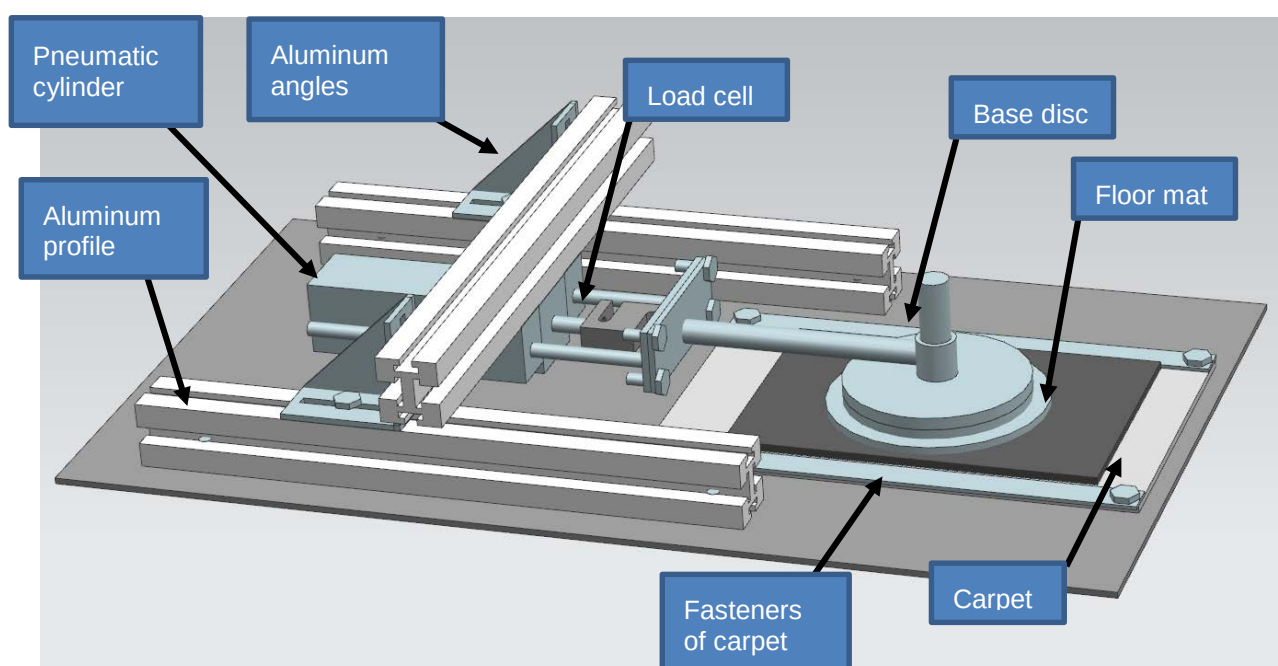
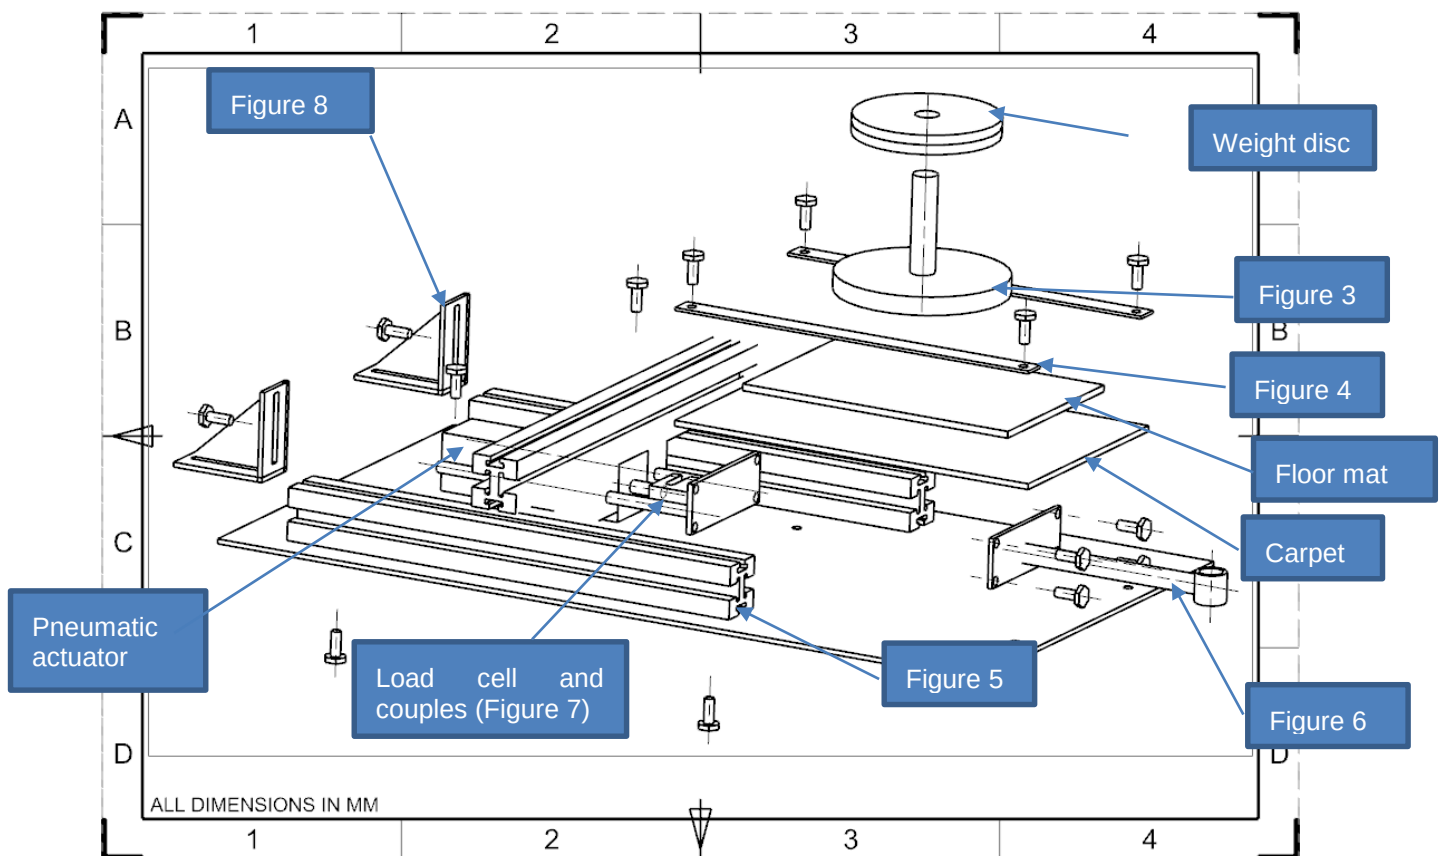

Figure 1: Floor Mat Friction Tester
Figure 2: Explode View System
3.2 Equipment. Fixture components and exploded view shown in Figure 1 and Figure 2.
3.2.2 Test fixture in Figure 1.
3.2.7 Weight holder assembly of 4.5 kg (10 lb) (Figure 1).